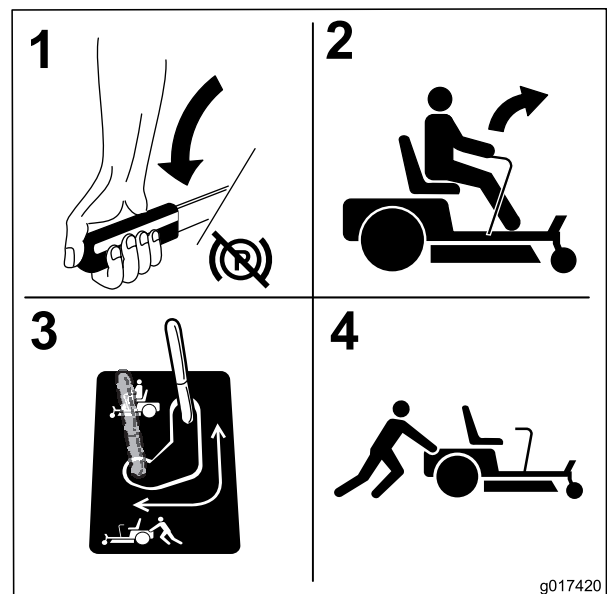

Figure 29
3. To push the machine, move the bypass levers rearward and out to lock them in place as shown in Figure 29. Repeat this on each side of the machine.
5. To run the machine, move the bypass levers to the forward position (Figure 29).